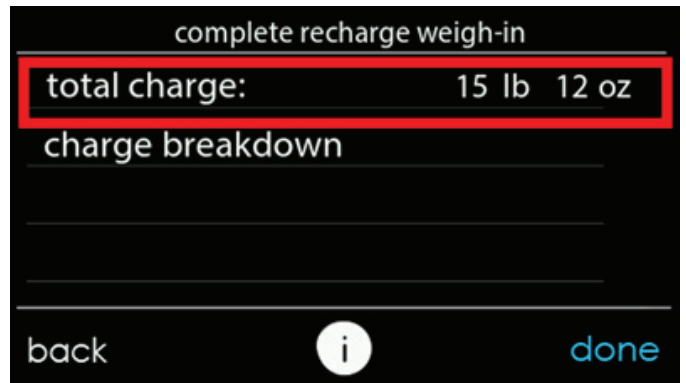

Fig. 21 – Total Charge Required for a Complete Charge A200039
14. If this is a complete re-charge then select "complete recharge" in the "charging mode selection" screen. This screen will show the total amount of charge to add for the indoor coil, line set, and outdoor unit (see Fig. 21). The "charge breakdown" screen shows the charge required for each component of the system.